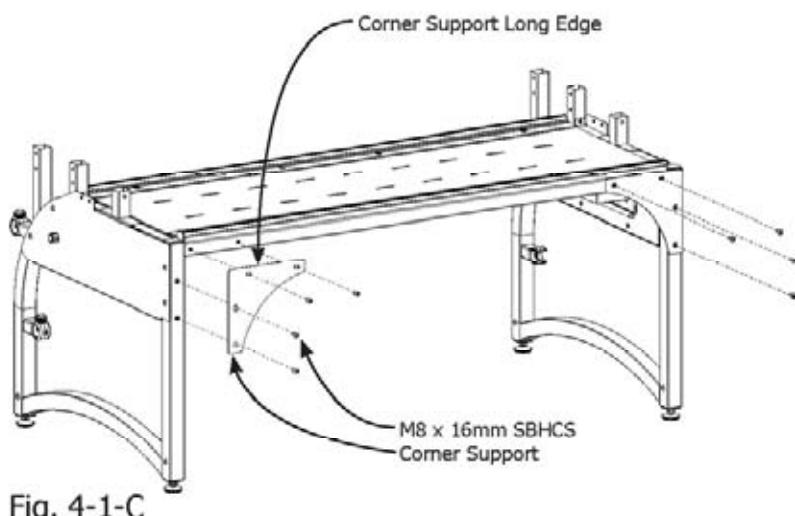

Fig. 4-1-C
**4-1:** Align the Corner Supports so that the long edge follows the table surface and fasten with M8 x 16mm SBHCS. The Corner Supports should lay flush with the Table Assembly and Frame End surfaces. (Fig. 4-1)
**4-2:** Fasten the Middle Leg Braces to the Table Assemblies and Middle Leg. The Middle Leg Braces should lay flush with the surface of the Table Assemblies and Middle Leg. (Fig. 4-1)
**4-1-C:** Align the Corner Supports so that the long edge follows the table surface and fasten with M8 x 16mm SBHCS. The Corner Supports should lay flush with the Table Assembly and Frame End surfaces. (Fig. 4-1-C)